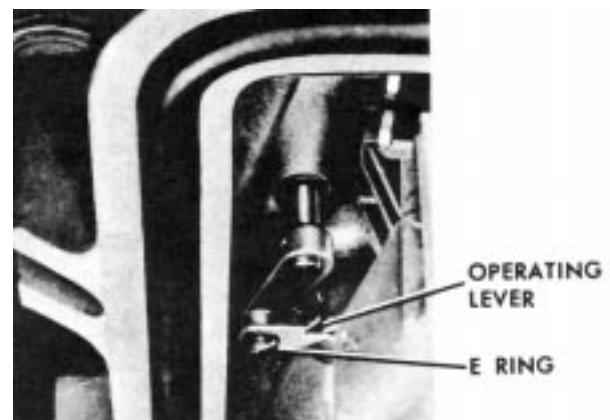

Figure 22
3. If an auxiliary switch accessory is mounted on the recloser head casting, remove the E ring and washer, figure 22, to allow disconnection of the operating lever.